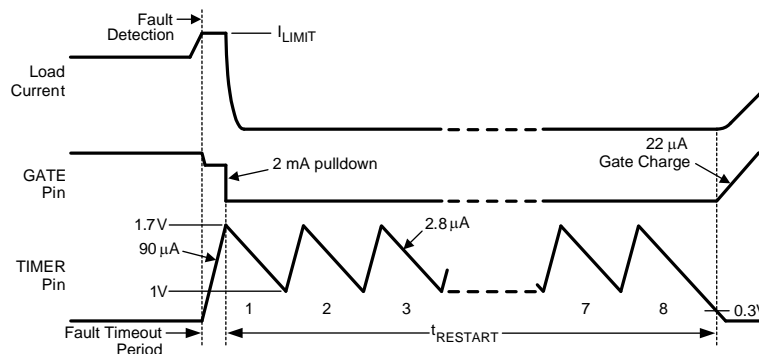

Figure 34. Restart Sequence
The LM25066I/A provides an automatic restart sequence which consists of the TIMER pin cycling between 1.7V and 1V seven times after the Fault Timeout Period, as shown in Figure 34. The period of each cycle is determined by the $90\ \mu\text{A}$ charging current, and the $2.8\ \mu\text{A}$ discharge current, and the value of the capacitor C_T . When the TIMER pin reaches 0.3V during the eighth high-to-low ramp, the $22\ \mu\text{A}$ current source at the GATE pin turns on Q_1 . If the fault condition is still present, the Fault Timeout Period and the restart sequence repeat. The $\overline{\text{RETRY}}$ pin allows selecting no retries or infinite retries. Finer control of the retry behavior can be achieved through the DEVICE_SETUP (D9h) register. Retry counts of 0, 1, 2, 4, 8, 16 or infinite may be selected by setting the appropriate bits in the DEVICE_SETUP (D9h) register.
C) Restart Timing - For the LM25066I/A, after the Fault Timeout Period described above, C_T is discharged by the 2.8 μA current sink to 1V. The TIMER pin then cycles through seven additional charge/discharge cycles between 1V and 1.7V as shown in Figure 34. The restart time ends when the TIMER pin voltage reaches 0.3V during the final high-to-low ramp. The restart time, after the Fault Timeout Period, is equal to: